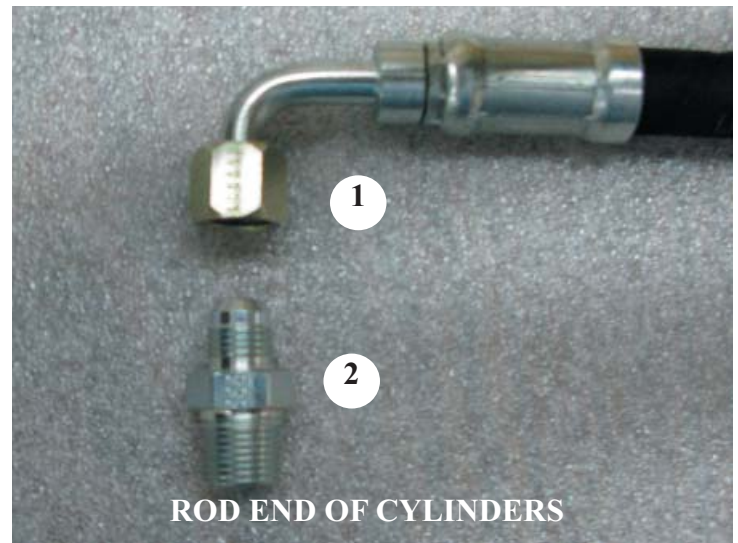

**Figure 2.1 -Rod End Assembly of LEFT Cylinder**
Refer to *Figures 2.1 & 2.2* for this step.
- On the cylinders, thread a 6MJ-6MP fitting (#2) into the rod ends. Attach the 89" (#1) hydraulic line to one side of the tee fitting and the 96" hydraulic line to the other via the quick connects. See *figure 2.1 & figure 2.2*